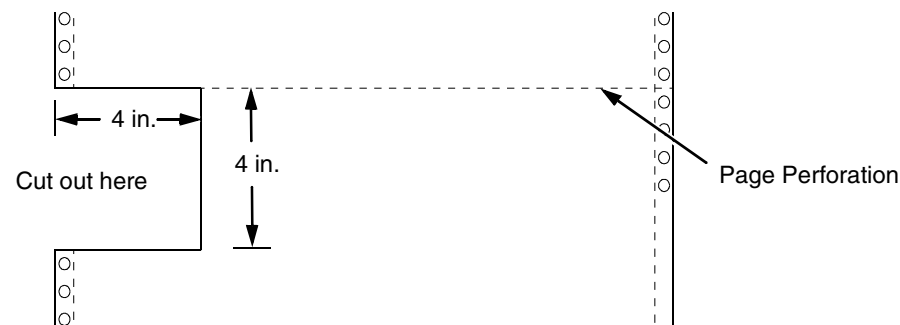

Figure 29. This figure shows how to prepare paper for the paper out adjustment test.
3. On the sheet of paper just below the paper entrance slot, cut or tear a four-inch square on the left side, immediately below the perforation. (See Figure 29.) This creates a hole that will trigger an END OF FORMS condition, but allows printing to the right of the hole (which would occur on the platen in a true paper out condition).